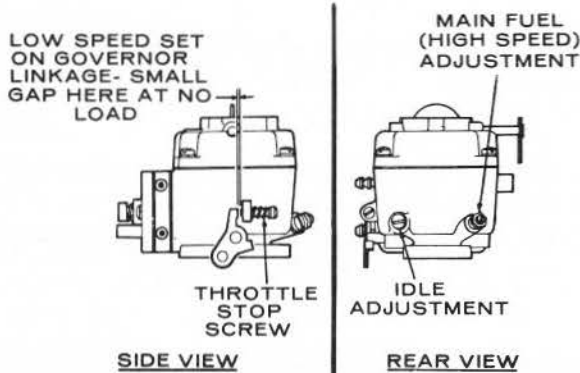
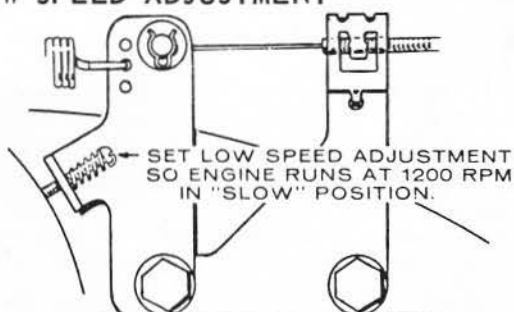

FIG. 21
FIG. 22
The carburetor has a main fuel valve adjusting screw and an idle valve adjusting screw. (Fig. 21). A low speed adjustment screw is shown in (Fig. 22).
2. Hold engine at idle position and set low speed adjustment screw (Fig. 22) until a fast idle is obtained (1200 rpm).